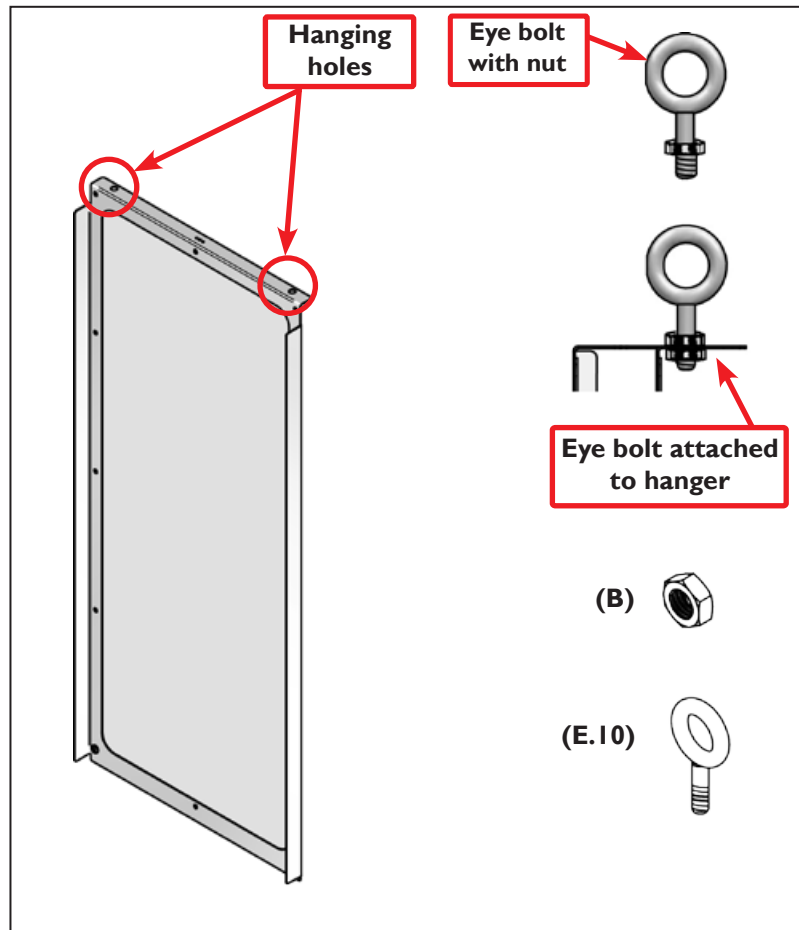

Figure 25
- 65.** Place one (B) nut on all four Eye Bolts (E.10) as seen in **Figure 25**, and screw on as far as it will go onto each Eye Bolt.
- 66.** Place each Eye Bolt into the hanging holes located on each door (see **Figure 25**). Once the Eye Bolts are through the door frame, thread another (B) nut onto the bottom side of each Eye Bolt; tighten securely.